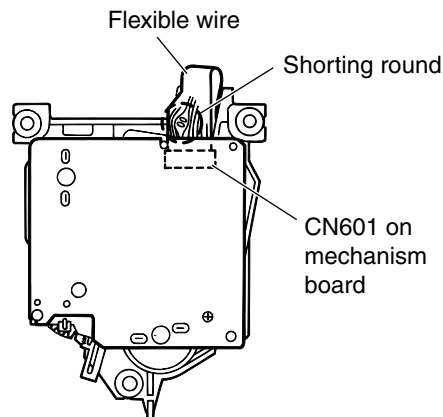

Fig. 11
■ Removing the pickup (See Figs. 11 to 14)